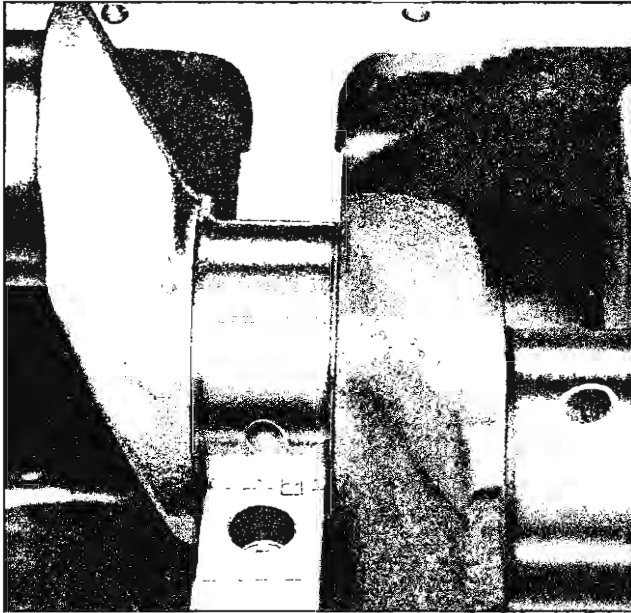

Fig. 52—Plastigage on Journal
2. Place a piece of Plastigage the full width of the bearing (parallel to the crankshaft) on the journal (fig. 52).